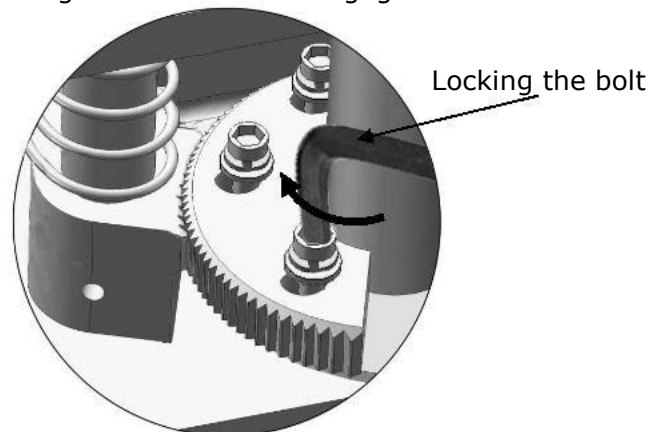

Fig. 35
4. Adjust moon gear and arm lock to make it to be meshed, then tighten the socket bolts of arm lock (See Fig. 35).